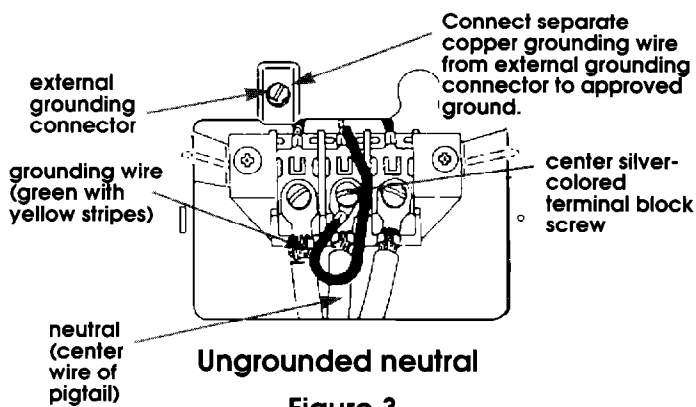

Figure 3
3. Remove the grounding wire (green) from the internal grounding connector and fasten under center, silver-colored terminal block screw. See Figure 3.